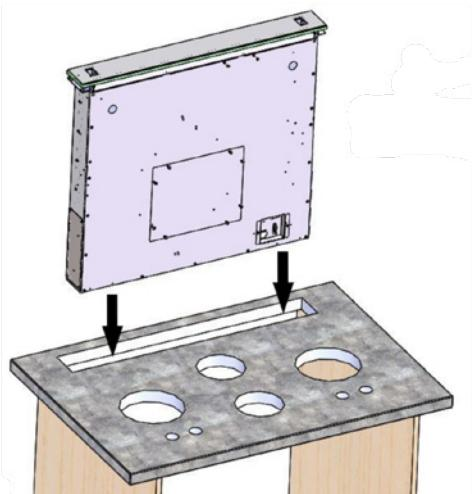

Fig.17
- Carefully lower downdraft into cutout cabinetry (Fig.17).